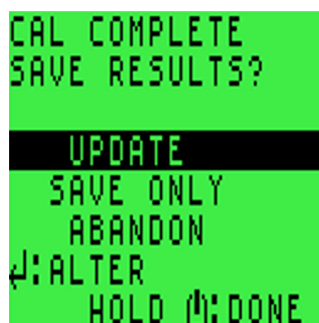

Figure 9-6: CAL COMPLETE/SAVE RESULTS Screen
- Once calibration is successfully completed, the user has the option of saving the results (refer to Figure 9-6: CAL COMPLETE/SAVE RESULTS Screen).